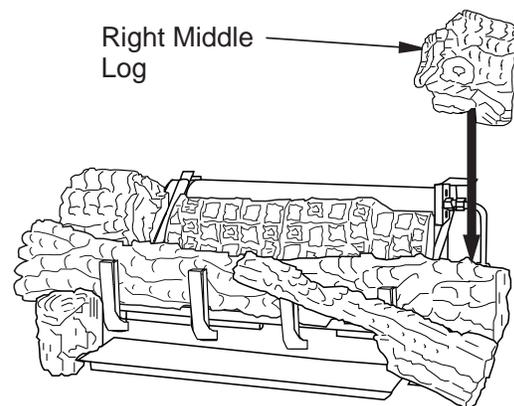

Figure 31 - Installing Right Middle Log
- The right middle log (18" D-067, 24" & 30" D-041) has a groove on the bottom to sit on the chassis and has to sit on the tab on the back of the right front. The right middle log should have a recess area that fits around the ramp log as shown in **Figure 31**.